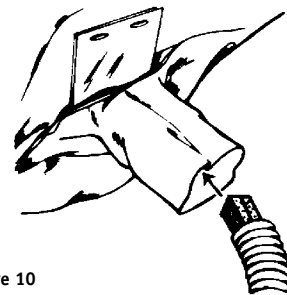

Figure 10
2. Insert breathing tube approximately five inches into hood's air entry sleeve (see Figure 10).